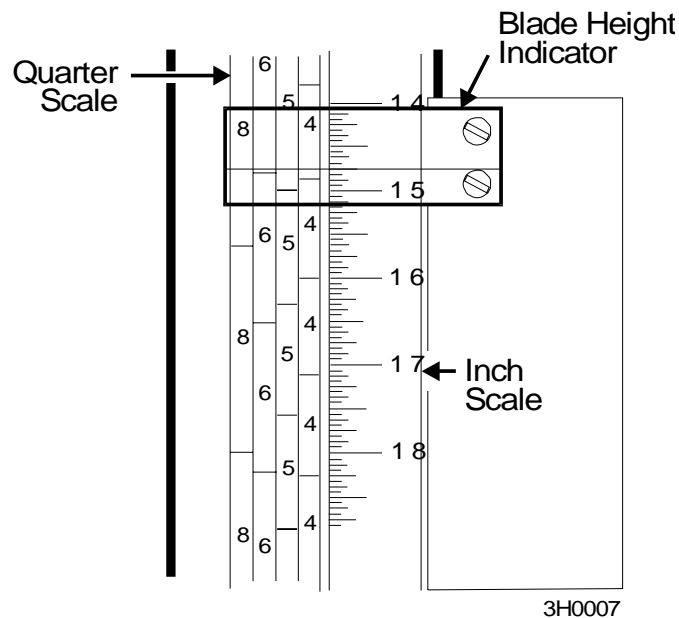

FIG. 5-15
**See Figure 5-15.** Loosen the indicator bracket mounting bolts and adjust the bracket until the indicator is aligned with the correct mark on the scale. Retighten the bracket mounting nuts.